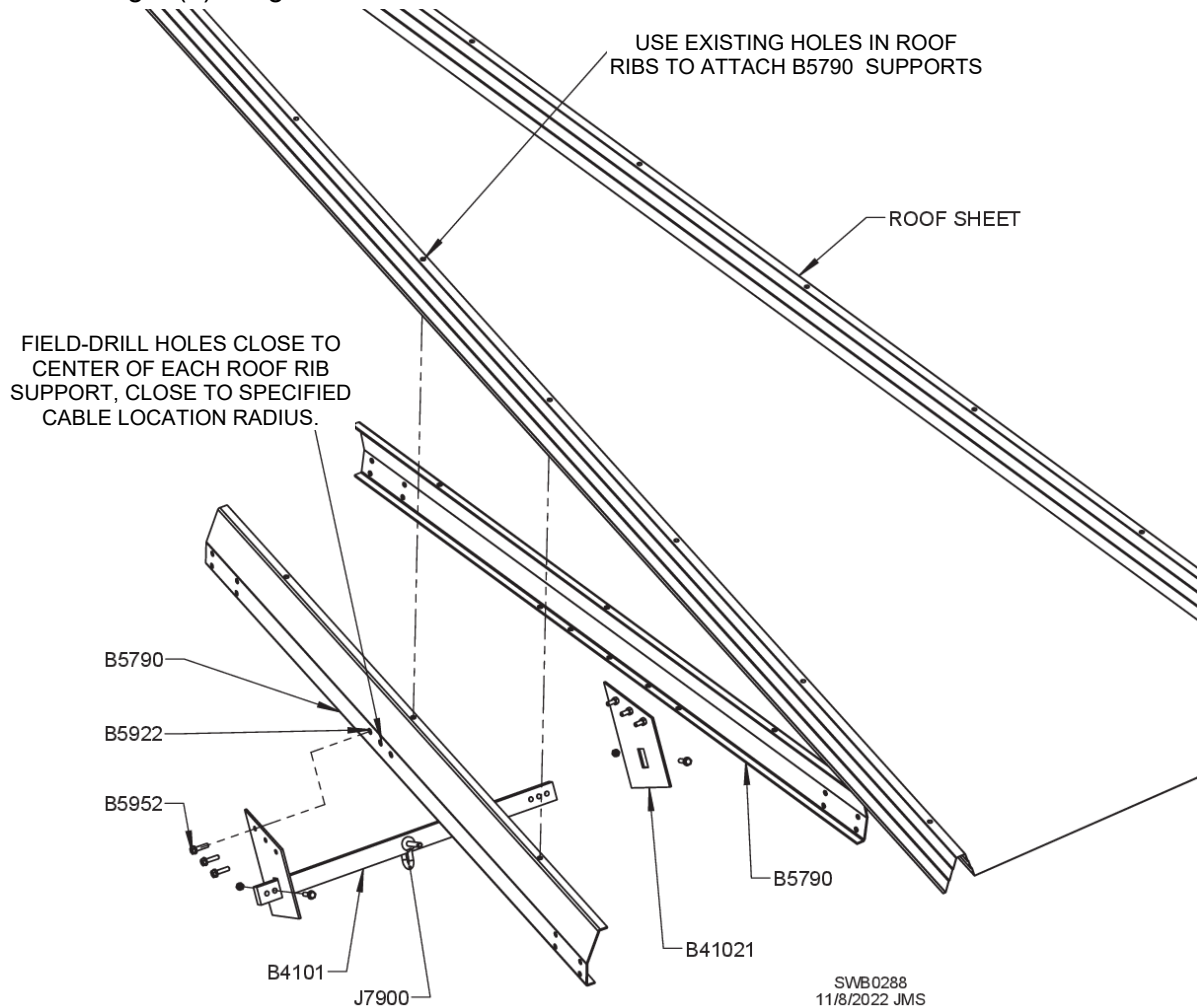

Fig. 26 – Installing temp cable support package B41001 for 24' to 48' dia. bins
Installation requires field-drilling each roof rib support (B5790) for attachment of temp cable support bracket (B41021). Attach roof rib supports to roof ribs as shown in Fig. 26 using existing holes. Center of roof rib support should be located close to temperature cable radius shown in Table 9 and applicable drawing (Figs. 28-31). Drill three (3) holes into side of each roof rib support, using B41021 bracket as drill guide. Attach each B41021 bracket to roof rib support using three (3) 5/16 x 1-1/4" bolts (B5952) and 5/16" flange nuts.